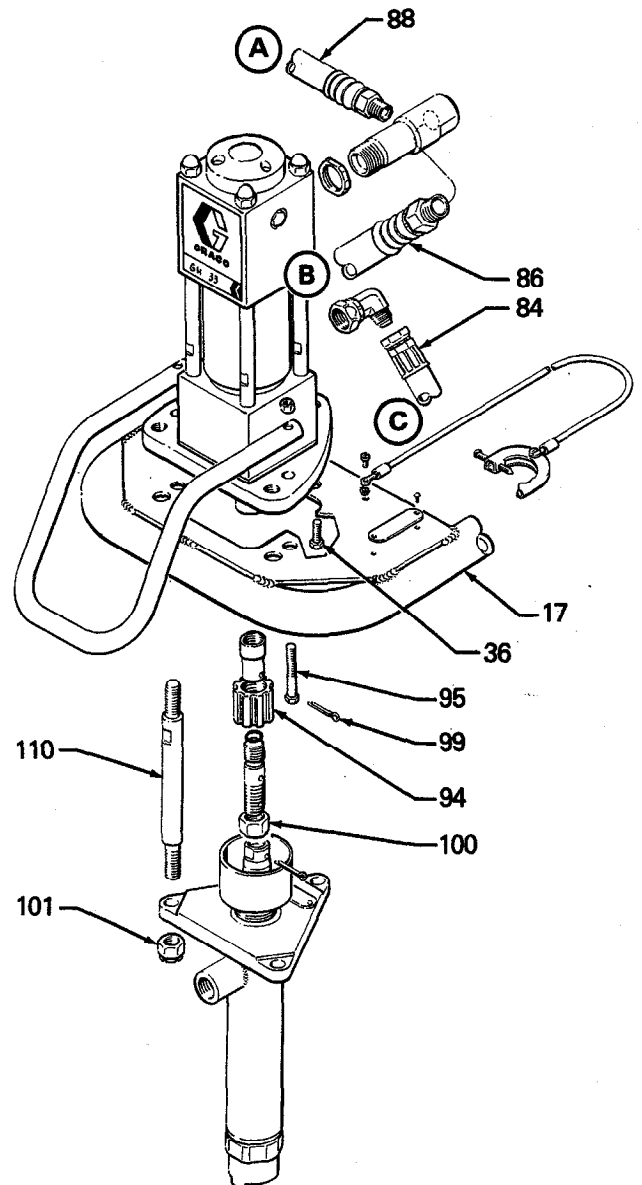

Fig 9
To remove the hydraulic motor, disconnect all hoses (84, 86, 88) from the motor. See Fig 9. Plug the ends of the hoses to prevent contaminating the hydraulic system. Remove the three tie rod nuts (101). Support the displacement pump and unscrew the connecting rod nut (100). Remove the cotter pin (99) and remove the pump. Unscrew the five capscrews (36, 95) from the bottom side of the pump frame (17). Lift the motor straight up. The tie rods (110) will pass through the holes in the frame's mounting plate. See Fig 9.